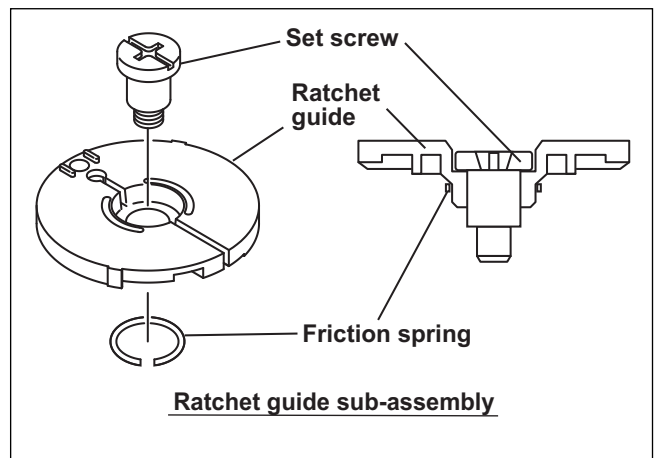

Fig. 14-6
-2 Mount the ratchet guide assembly, taking care not to move the ratchet. (Fig. 14-6)